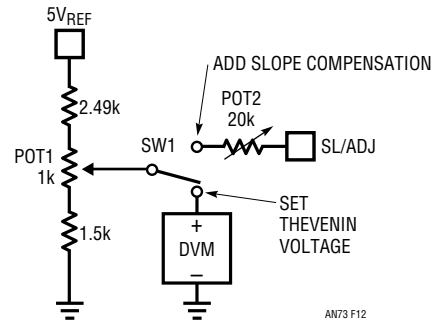

Figure 12. Slope Compensation Adjustment Setup Circuit
2. Construct the subcircuit shown in Figure 12 and connect it to your switcher.